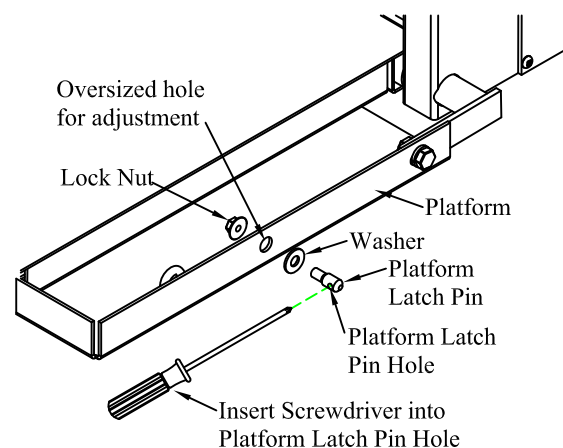

Figure 3: Platform latch pin.
2. **Loosen** the platform latch pins with a screw driver and wrench (Figure 3).